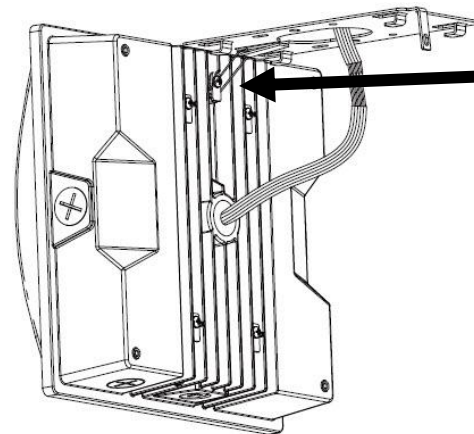

Figure 4
- 8:** Hang fixture on quick mounting plate by utilizing the hanging ring. (Figure 4)